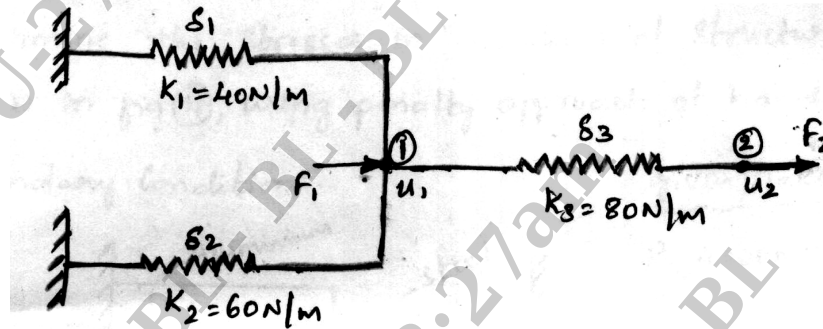

Fig Q2(b)
- b. Determine the displacement at the nodes for spring mass system shown in Fig Q2(b), using principle of minimum potential energy. Take $F_1 = 60 \text{ N}$, $F_2 = 50 \text{ N}$. (10 Marks)